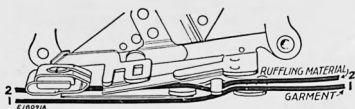

FIG. 63. CORRECT POSITIONS FOR THE MATERIALS
- (1) Insert the material to be ruffled between the two blue blades **Line 2, Fig. 63.**
- (2) Place the material to which the ruffle is to be attached under the separator blade **Line 1, Fig. 63.**
- (3) Proceed the same as for plain gathering.